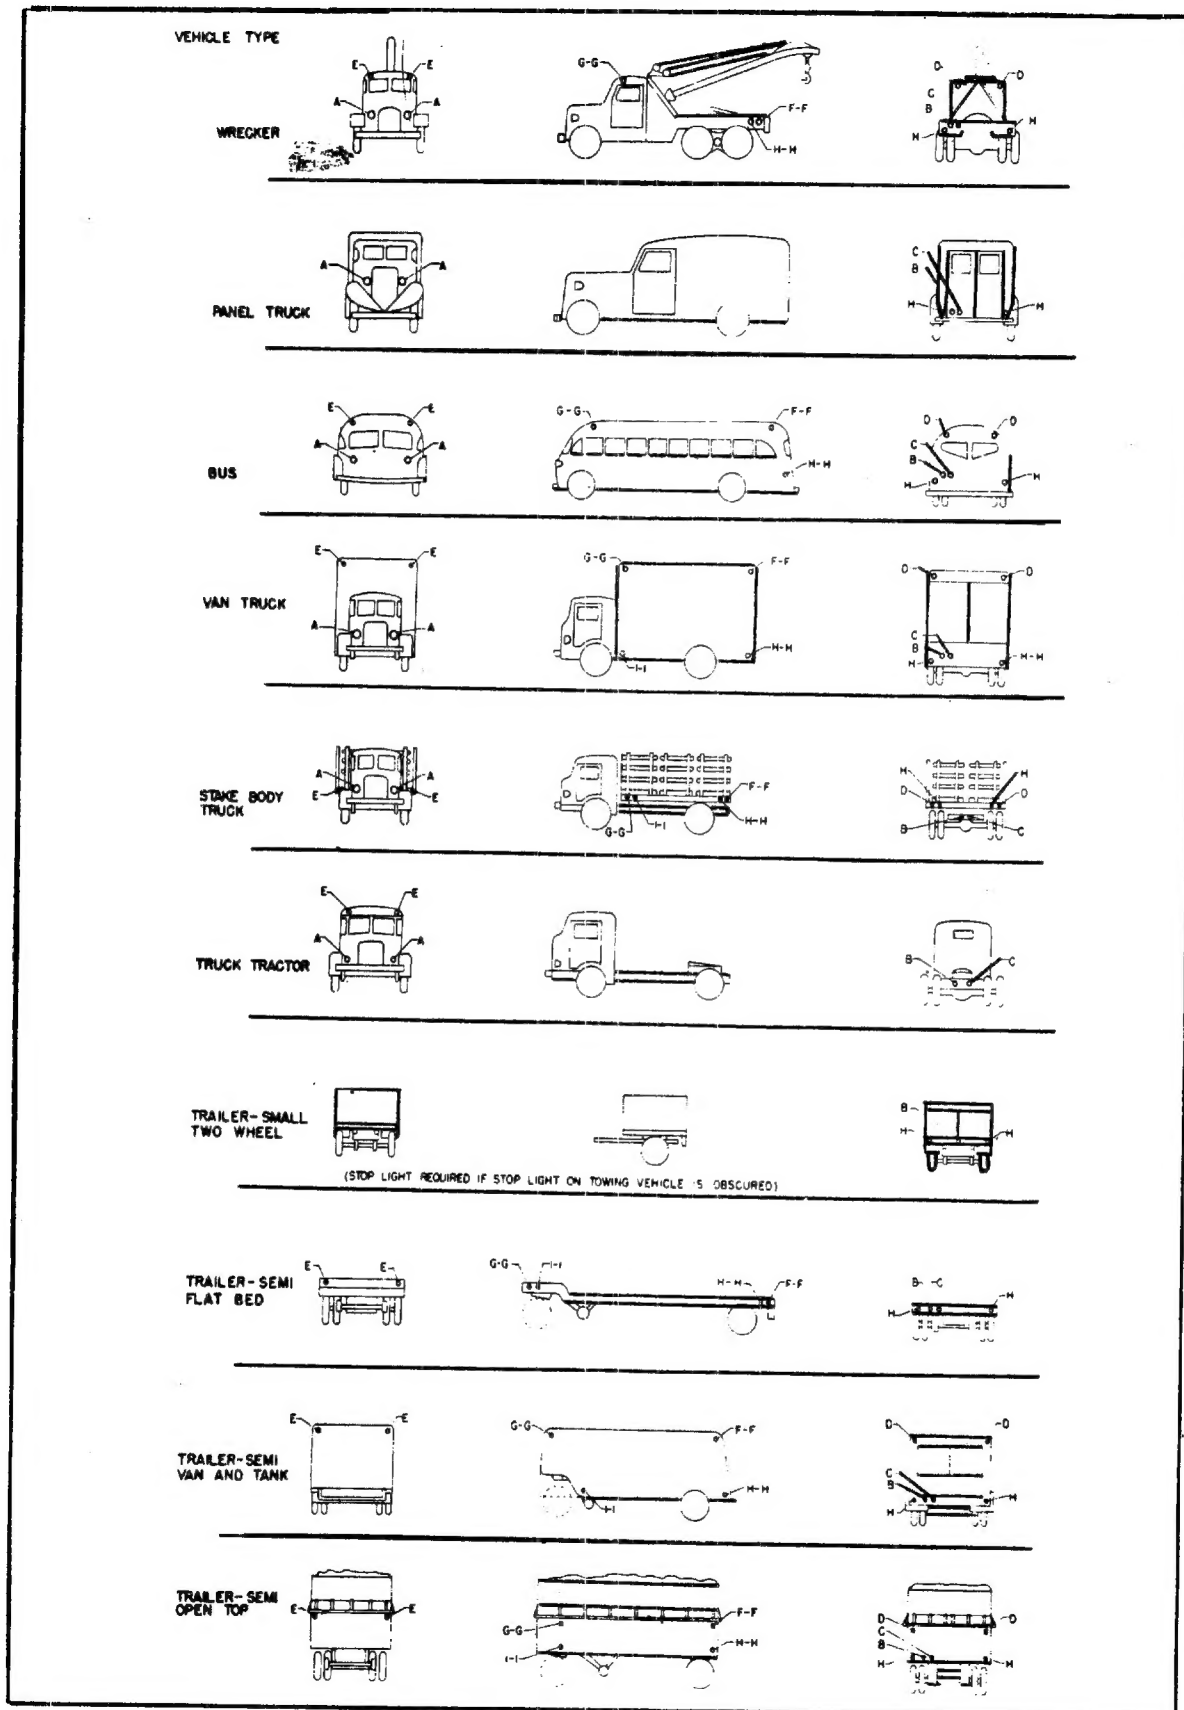

Figure 6-1. Types of Vehicles
c. The following legends represent the lights, reflectors, and markers which may be required on all types of vehicular equipment (see figure 6-1):
- (1) A - Head Lamp
- (2) B - Red Tail Light
- (3) C - Red or Amber Stop Light
- (4) D - Red Clearance Lamp
- (5) E - Amber Clearance Light
- (6) F - Red Side Marker
- (7) G - Amber Side Marker
- (8) H - Red Reflector
- (9) I - Amber Reflector
b. **REFLECTORS**. All reflectors indicated in figure 6-1 will be in accordance with Ordnance drawing number B161059. Reflector installation on vehicles will not exceed a height of 60 inches and should be not less than 24 inches above the ground on which the vehicle stands. On vehicles which are so constructed as to make compliance with the 24 inch requirement impractical, lower mountings may be used.